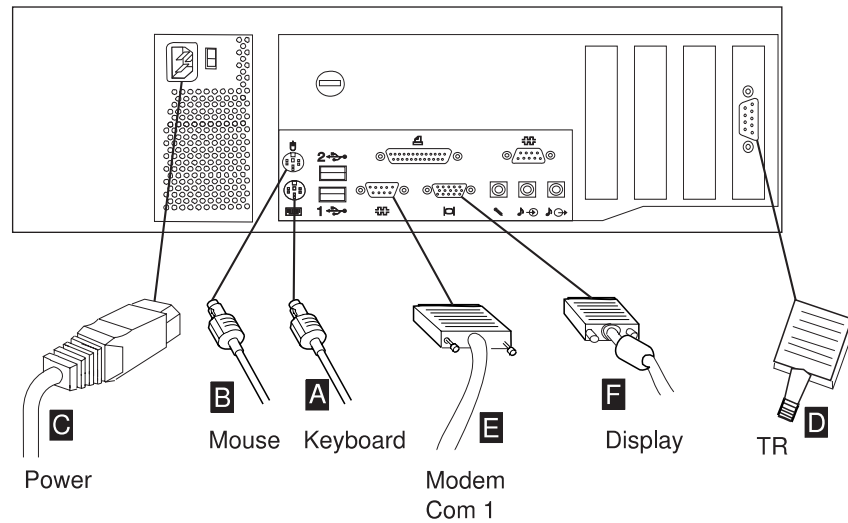

Figure 1-10. Cable Locations
17. Connect the cables to the 6578 as follows (see Figure 1-10 on page 1-15):